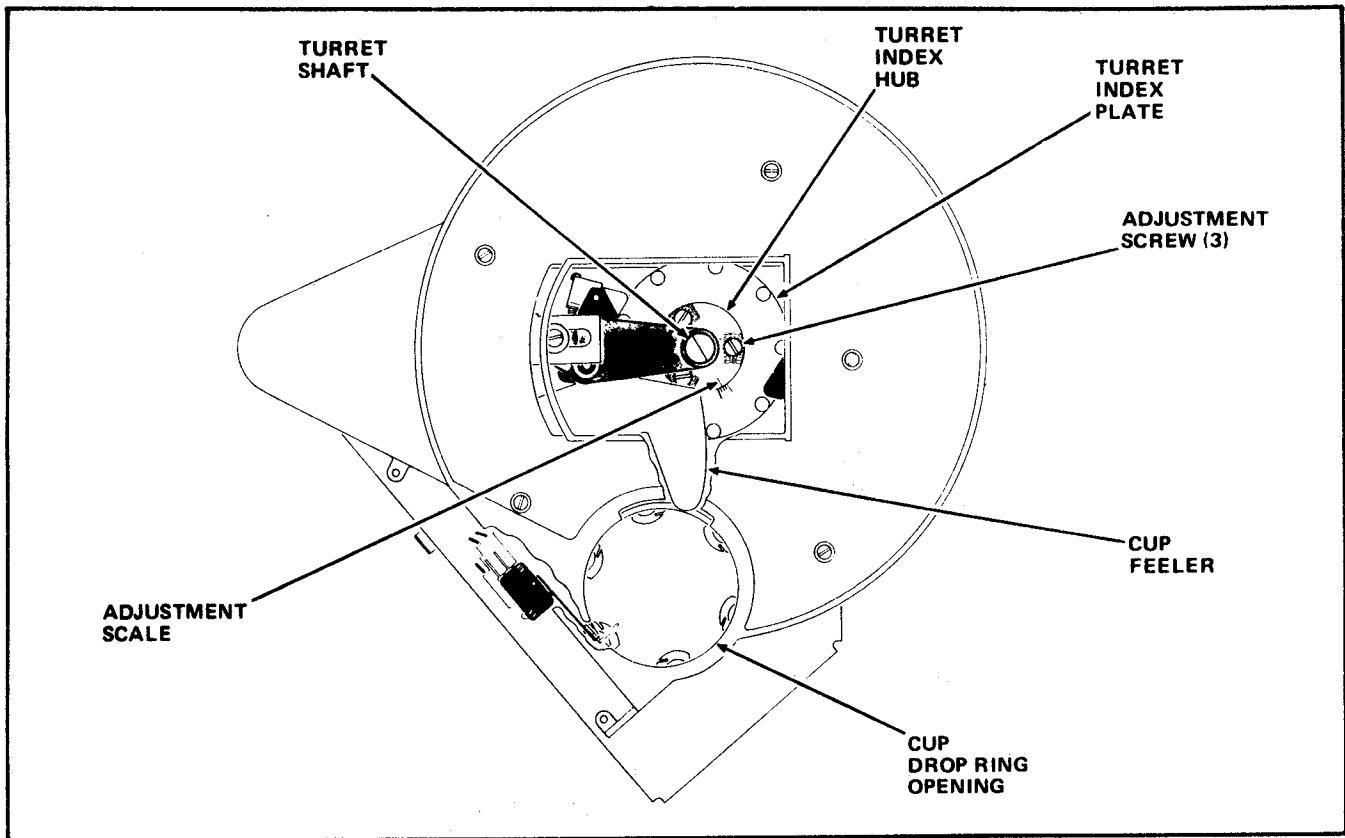

Figure 3-13. Cup Turret Index Adjustment Screws
- b. Remove the Cup Turret Assembly and observe the Adjustment Scale. See Figure 3-13.
To gain access to all three Adjustment Screws, remove the stack of cups from the Cup Drop Ring Opening, move the Cup Feeler out away from the Turret Shaft, and turn the Turret shaft clockwise by hand. See Figure 3-13.
- c. Loosen the three Adjustment Screws securing the slotted Turret Index Hub. See Figure 3-13.
*Moving one increment on the Adjustment Scale moves the cup Turret Assembly at the Cup approximately 1/4". See Figure 3-13.*
- e. Tighten the three Adjustment Screws. See Figure 3-13.
- f. Place the stack of cups back into the Cup Drop Ring Opening. See Figure 3-13.